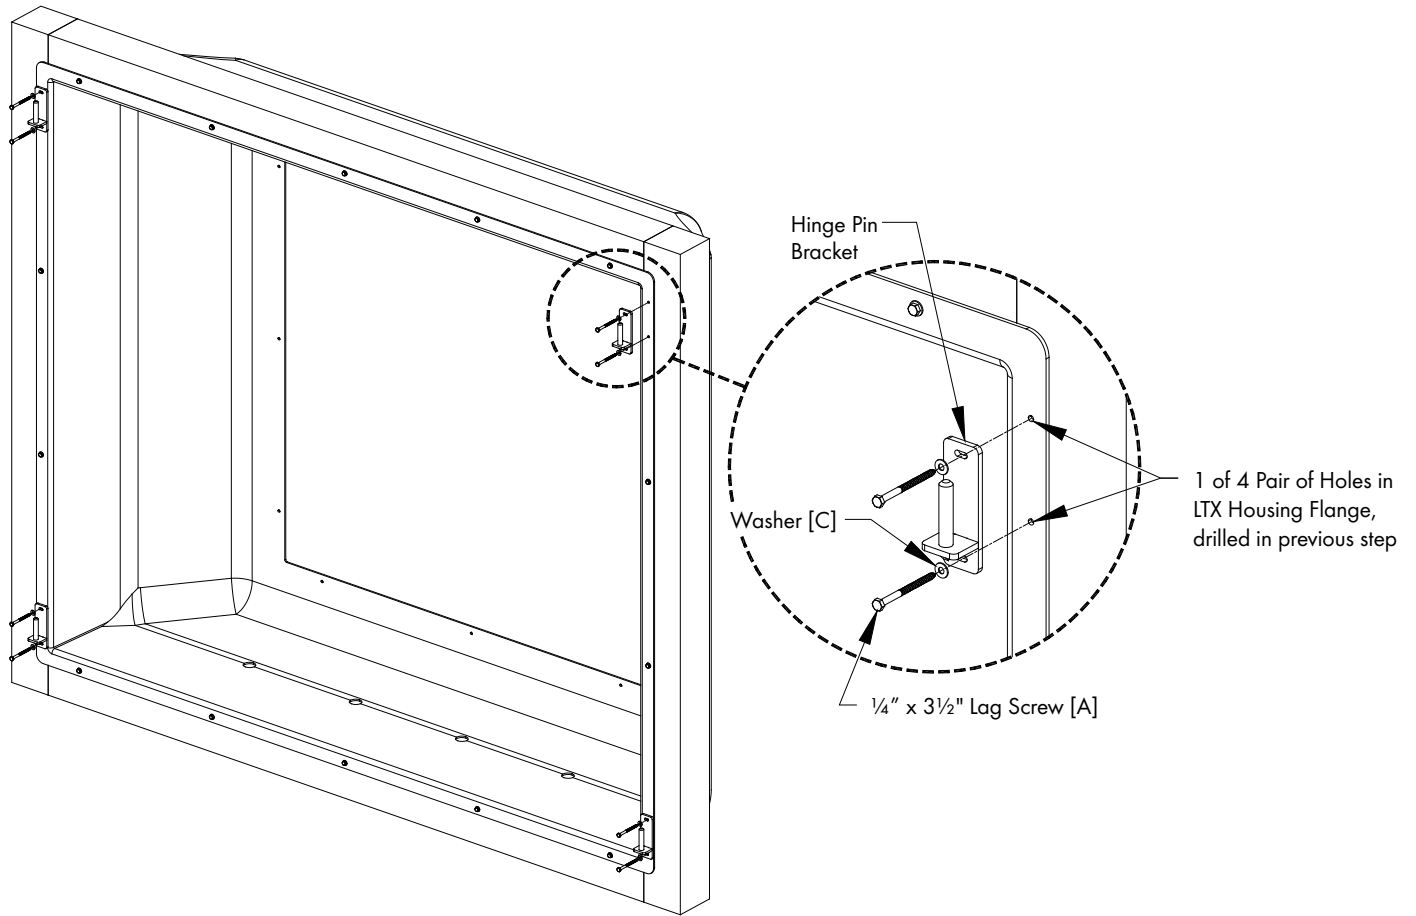

Figure 4
Attach 4 Lift-Off Style Hinge Pin Brackets [J] to the flange of the LTX Housing mounting holes drilled in the previous step, using (2) Lag Screws [A] and Washers [C]. See Figure 4. Make sure the Pin is facing up.